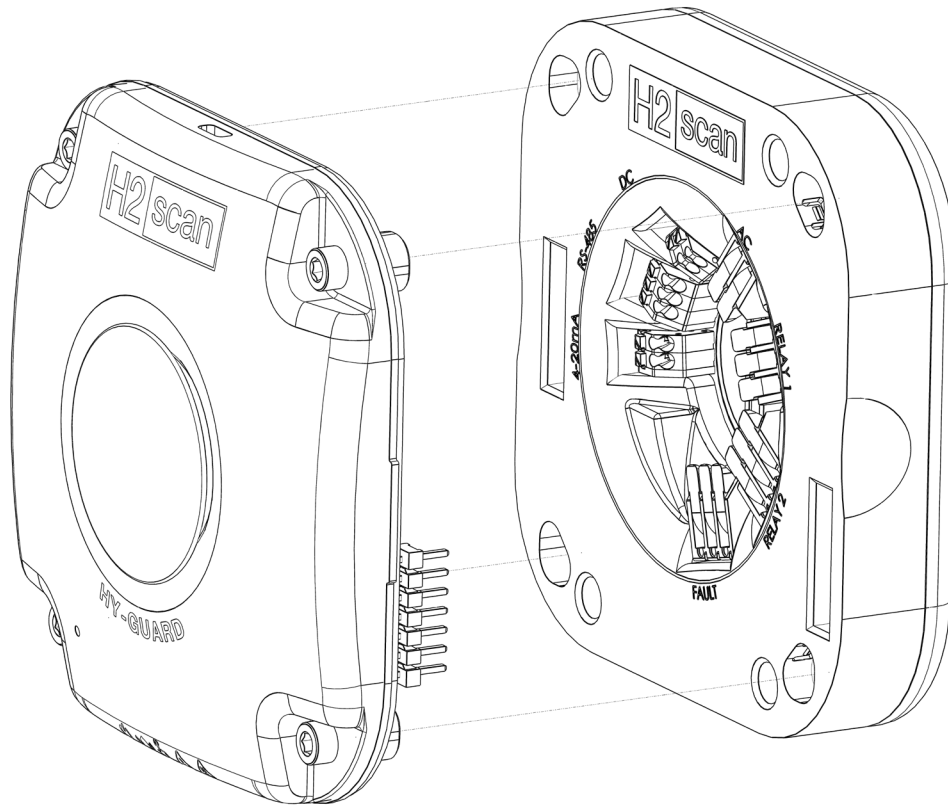

Figure 4: Connect Sensor Module to Back Plate
2. Secure the sensor module to the back plate (see Figure 4).